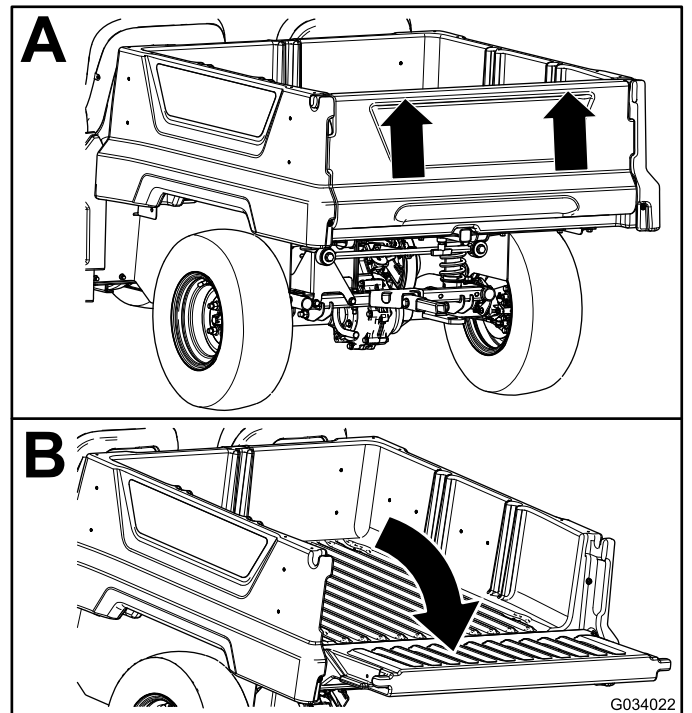

Figure 23
2. Using both hands, raise the tailgate using the ridge near the top of the tailgate (Figure 23).
3. Lower the tailgate until it is flush with the bottom of the cargo bed (Figure 23).